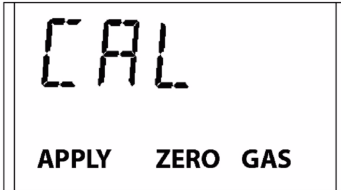

Fig. 10 Prompt for supplying zeroing gas
- the APPLY ZERO GAS indicators [→ Fig. 10].